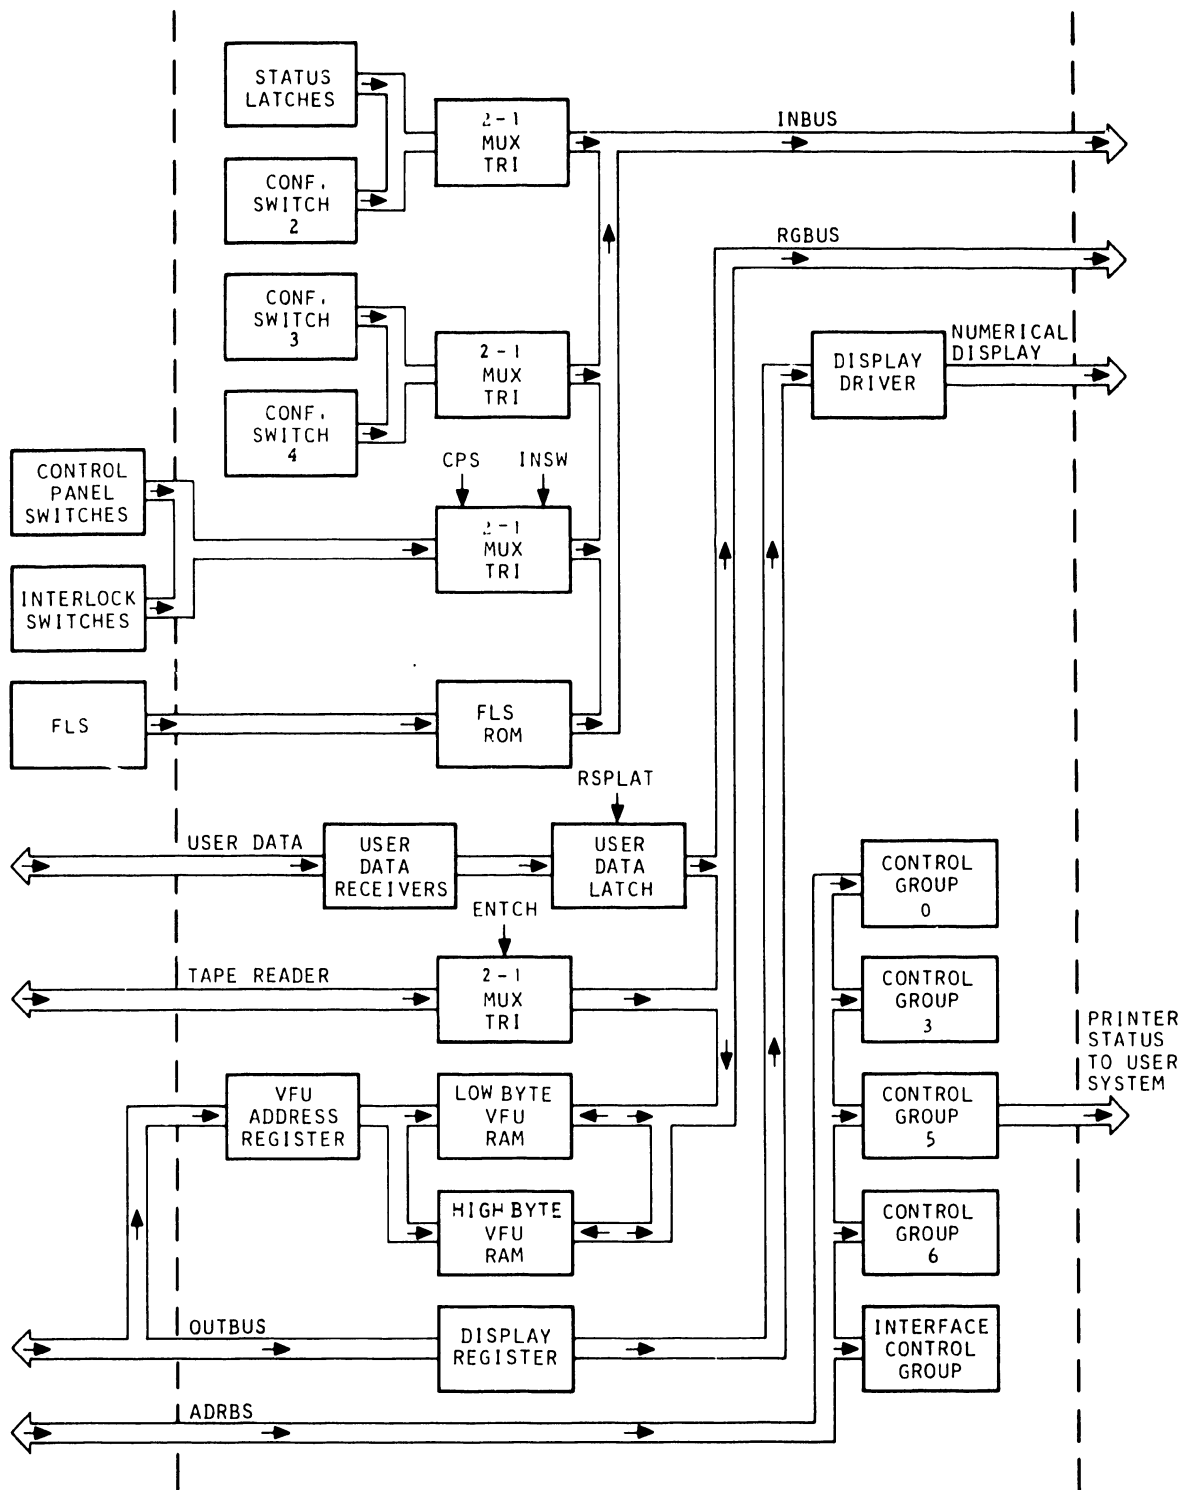

Figure 2-17. Short Line Interface CCA Block Diagram
2. Operational Description - The functions of the Interface CCA may be divided into two (2) major areas --- user printer data transfer and interface processor data transfer. (See figure 2-17.) With the exception of the hardwired CLKFLT\*, HOT\*, and 5VFLT\*, the interface operates under processor control.